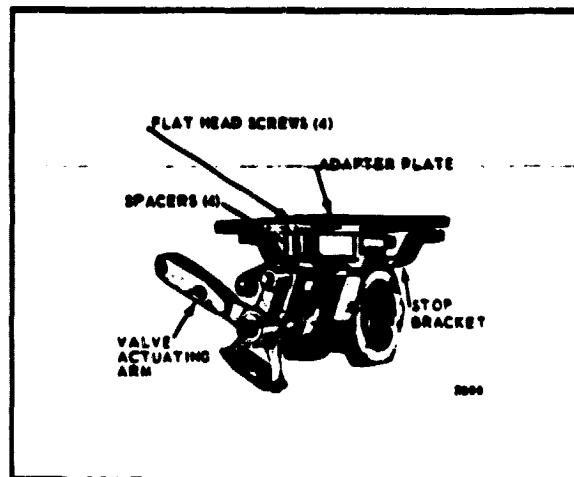

FIG. 9—RELATIONSHIP OF PARTS IN V51E.
3. Insert the flat head screws supplied with the linkage assembly through plate, spacers, and stop bracket and into each hex. Tighten securely. The spacers prevent contact of adapter plate and stop bracket. See Fig. 9.